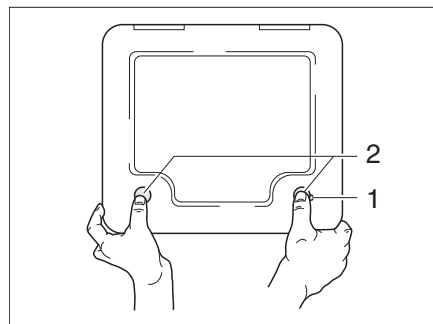

Fig. 102 Flap for Thetford cassette
- Open the flap for the Thetford cassette on the outside of the vehicle. Insert the key into the locking cylinder of the push-button lock (Fig. 102,1) and turn a quarter turn in a clockwise direction.
- Press both push-button locks (Fig. 102,2) simultaneously with your thumb and open the flap for the Thetford cassette.